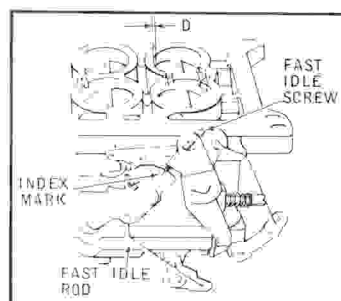

FIGURE 7
**Type II (Fig. 7)**
**G. Fast Idle - Throttle: (Fig. 7)**